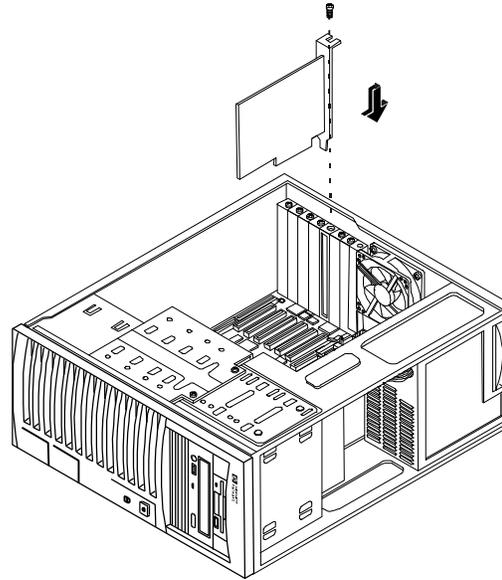

Figure 6-3. Inserting an Accessory Board
8. Slide the accessory board into the slot (see Figure 6-3).